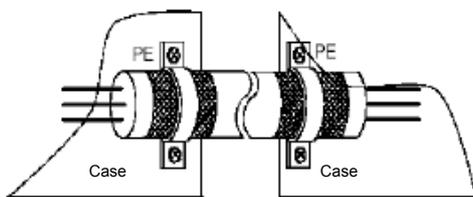

Figure A.4 Correct wiring to PE
Shielded conductors are usually used for control cable. The metal shield shall be connected to the metal housing with the cable clamps on both ends in a 360° ring, as shown in Figure A.4. Figure A.5 shown a wrong shielding.
(3) Shielded cables shall be used for the motor, preferably with a double shield of screw metal belt and metal net. The motor cable shield on the inverter side shall be connected to the back panel with the cable clamps in a 360° ring (as shown in Figure A.4). There shall be two fixing positions: one near the inverter (preferably less than 15 cm), and the other on the grounding terminal. The motor cable shield shall be connected to the grounded metal housing of the motor in a 360° ring when the motor end goes cross the terminal box. If it is too difficult, the shields may be braided and then flattened to connect the grounding terminal, with the width larger than 1/5 of the braid length. The bare cable core and the PE braid shall be as short as possible, preferably smaller than 5 cm.
(4) Shielded cables shall be used for terminal control. The shield shall be connected to the grounding terminal at the entry of the cabinet with metal cable clamps in a 360° ring. It may be connected to the metal housing of the inverter though metal cable clamps. If it is too difficult, the shields may be braided and then flattened to connect the grounding terminal, with the width larger than 1/5 of the braid length. The bare cable core and the PE braid shall be as short as possible, preferably smaller than 15 cm.
(5) The keyboard line may not go outside the shielded cabinet.
(6) Holes on the cabinet shall be as small as possible, no larger than 15 cm.